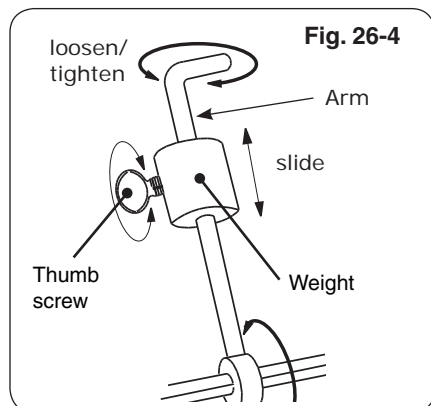

Fig. 26-4
9. Slide the counterbalance weight up or down the arm until the rod rotates most evenly then tighten thumb screw (Fig. 26-4 and Fig. 26-5).